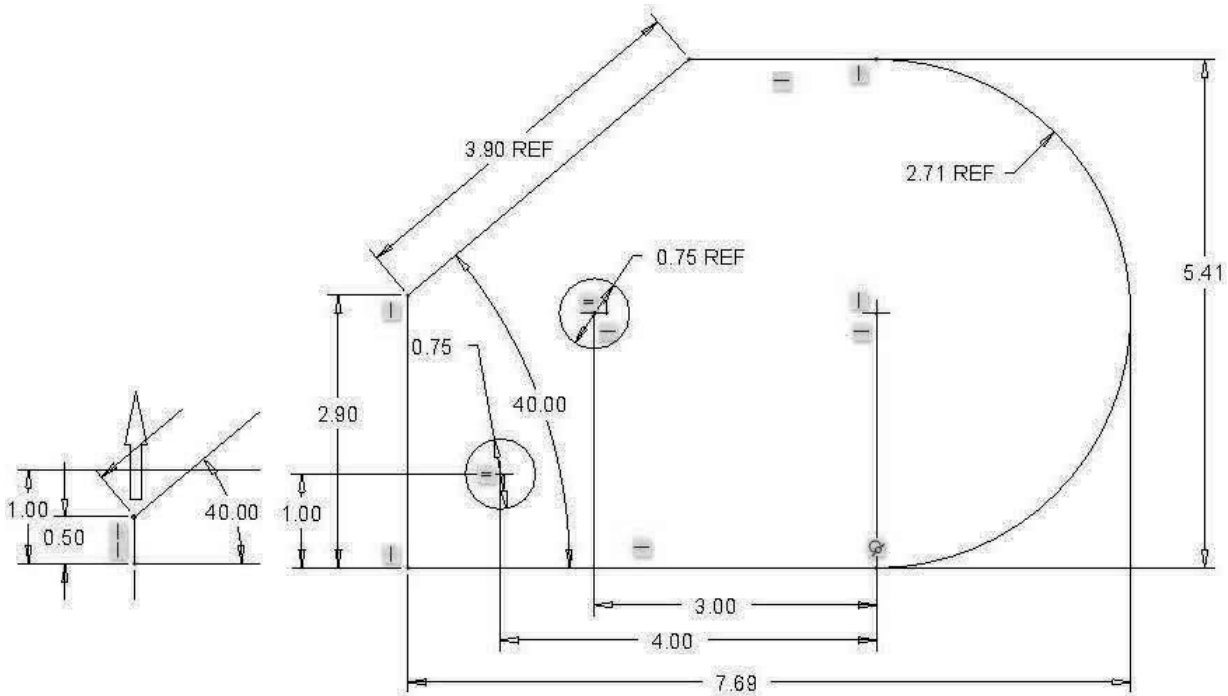

Figure 3-25 Design Intent, 0.50 Changed to 2.90 and diameter increased to 5.41
**Step 10:** Move the cursor onto the point where the left vertical line meets the slanted line, then *press* the LMB. The point will turn red. *Press down* the LMB, then move the cursor upward. The point will follow the cursor. Move the point to the left and right. As you move the point observe the dimensions on the figure. Note that the left small hole and its size do not change since it references the horizontal distance to the center of the big radius and the vertical distance from the bottom of the figure. See Figure 3-25. What dimensions change or do not change, and why?